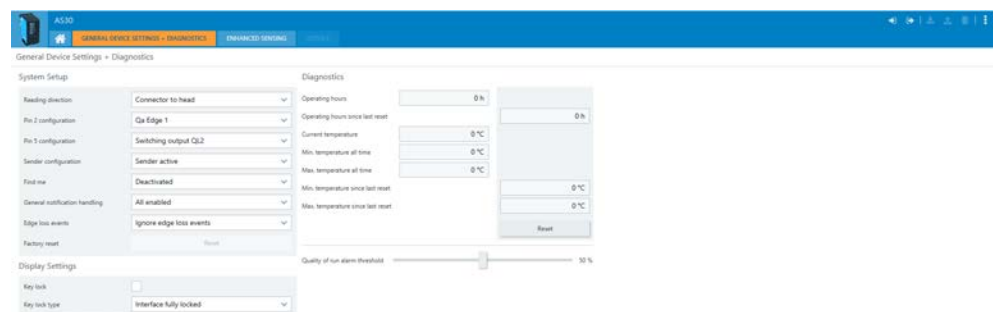

Figure 4: General Device Setting
- **Other settings (see figure 4)**